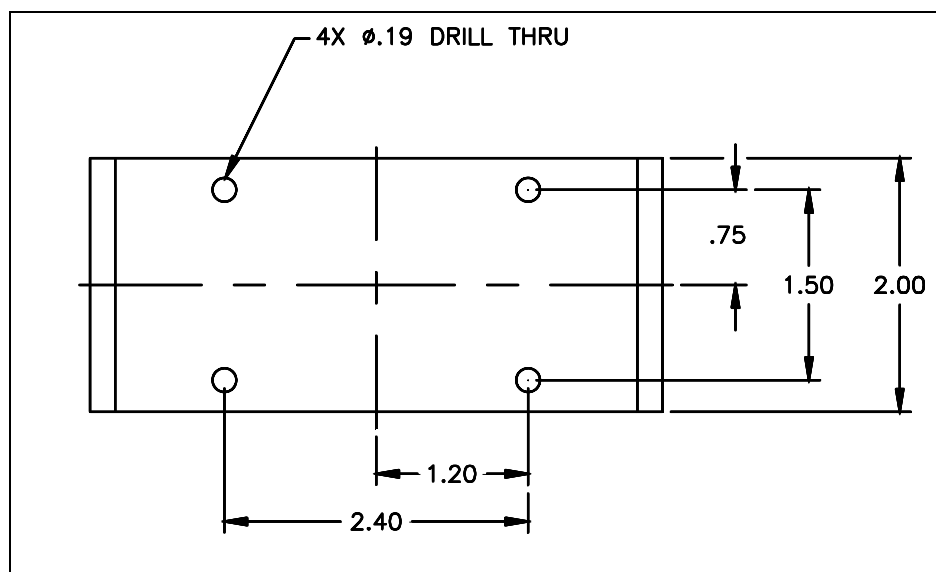

Figure 3-1 Mounting Bracket Hole Pattern
Figure 3-1 Mounting Bracket Hole Pattern	7
1. Refer to the mounting bracket hole pattern shown in Figure 3-1 and drill four 0.191 in (0.48 cm) diameter holes.